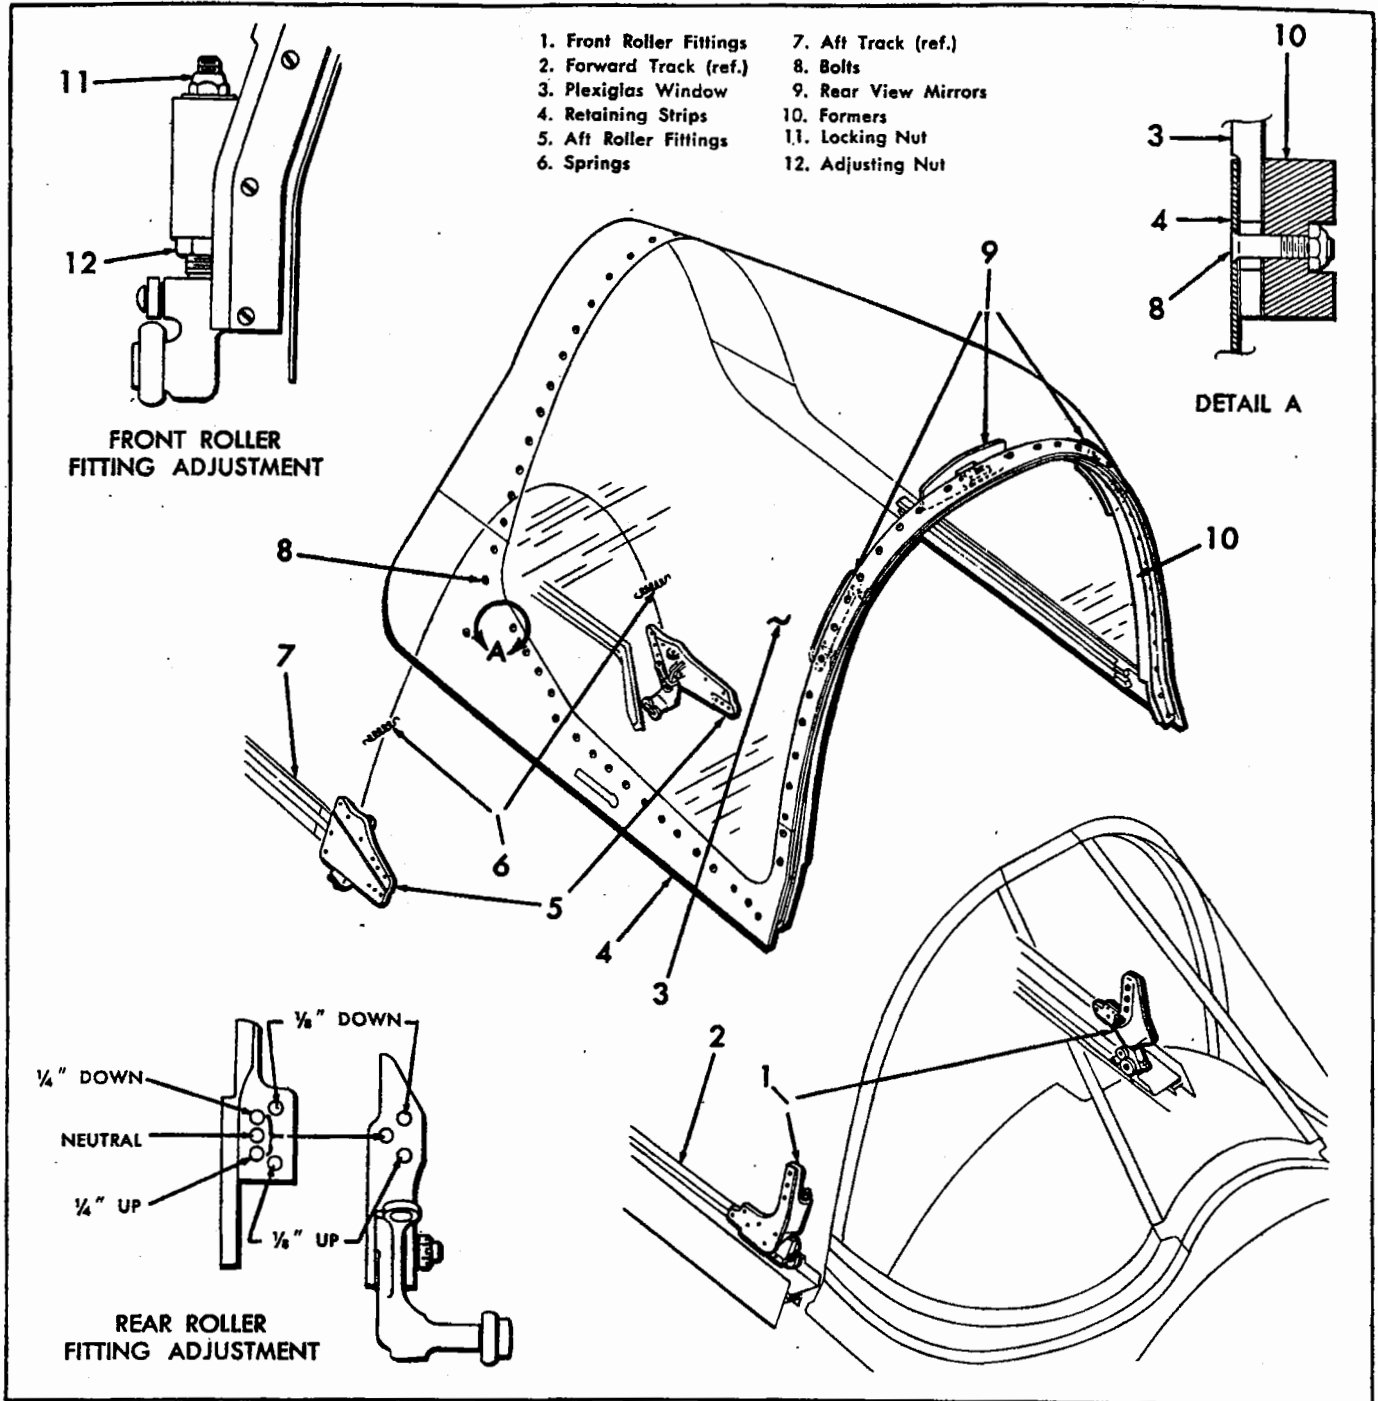

Figure 4-37. Cockpit Cabin Sliding Section.
4-237. DESCRIPTION. (*See figures 4-37 and 4-38.*) The cockpit cabin sliding section consists of a fully transparent plastic canopy secured in a metal frame and moving on rollers on two tracks forward of bulkhead 186 and two tracks aft of bulkhead 186. The sliding section is approximately twenty-six inches long, extending in the closed position from station 158 to station 184. In normal operation, the canopy is hydraulically opened and closed by actuating the control handle located on the left hand side of the cockpit; see paragraph 4-1150. Provision is made to open the closed sliding section from the outside through an external manual release pull ring stowed behind a small door on the right hand fuselage; placing the cockpit canopy control handle in the "MANUAL" position permits manual opening from the inside. An emergency compressed air system is provided to open the cabin should normal hydraulic actuation fail. The cabin is held closed by hydraulic pressure. If the hydraulic system fails, a check valve in the pressure line prevents loss of hydraulic fluid and provides an emergency hydraulic lock thus holding the cabin closed until the cabin control handle is moved to the "EMERGENCY" position.
4-241. DESCRIPTION. (See figure 4-37.) The sliding section (also called the cabin, canopy, or hatch) consists of an aluminum alloy frame of formers in which a formed Plexiglas window is held by retaining strips and bolts. Three small mirrors (9) on the forward part
4-242. REMOVING. (*Parenthesized numbers refer to callouts on figure 4-37.*)
- b. Remove the springs (6) which connect the aft corners of the sliding section to the aft roller fittings (5).
- c. Detach aft roller fittings (5) from sliding section fittings by removing bolts. Roller fittings will remain within tracks when sliding section is removed.
- d. Detach front roller fittings (1) from sliding section fittings by removing nuts (11). Roller fittings will remain within tracks when sliding section is removed.
4-243. DISASSEMBLY. (*See figure 4-37.*) Remove Plexiglas window (3) from formers (10) by removing bolts (8), detaching retainers (4) and tape. It is not necessary to remove the sliding section from the airplane in order to remove Plexiglas from sliding section frame.
4-245. INSTALLING AND ADJUSTING. (*See figure 4-37.*) Two men will be required to lift the sliding section and to drop it over the roller fittings which remain in the tracks. To adjust the sliding section properly upon installation, proceed as follows: